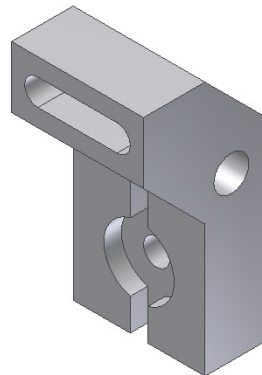

Figure 8-161 Model after creating the cut features
- b. Add cut features and holes to the base feature, refer to Figure 8-161.
1. Create the cut features on the model. Figure 8-161 shows the model after creating the cut features. For dimensions of the cut features, refer to Figures 8-159b and 8-159c.